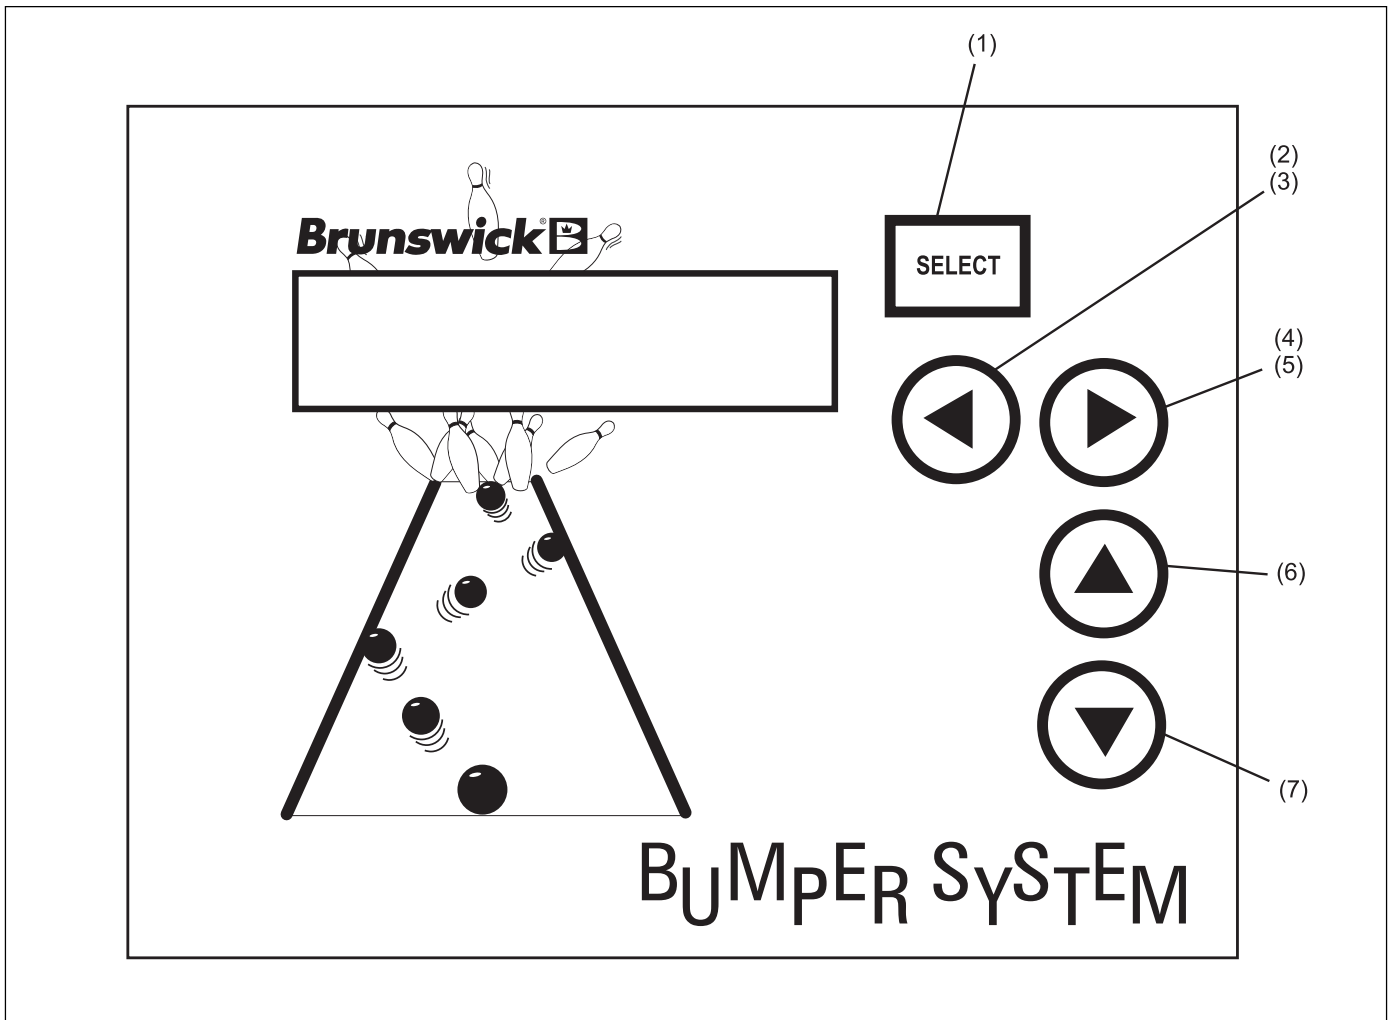

Figure 8. System Controller - Stand Alone Configuration
1. Place toggle switch on rear of unit up (ON) position. Refer to *Figure 8* for switch/button locations.